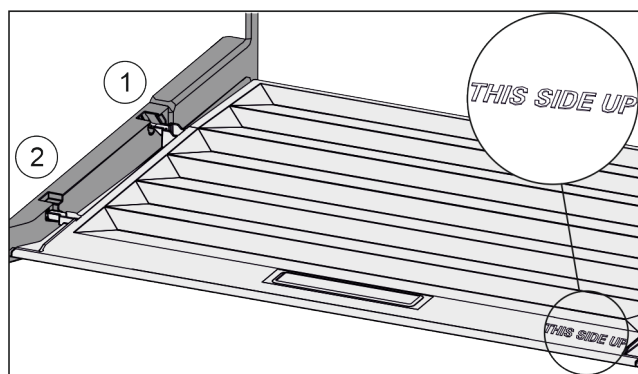

Fig. 37
- ▶ Insert the lip of the cover over the opening of the rear bracket Fig. 37 (1) and click into place Fig. 37 (2).